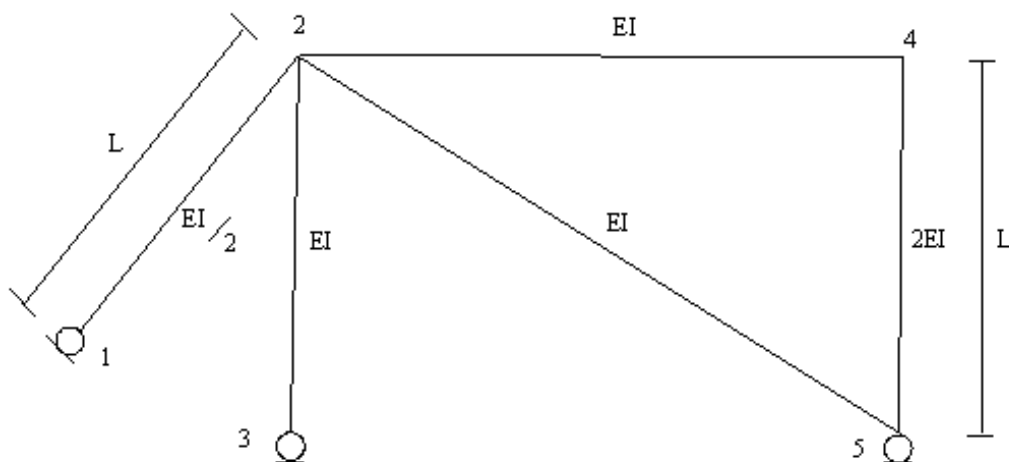

Figure 2
Figure 2 shows a plane beam structure consisting of four beam elements. Only bending stiffness shall be taken into account, i.e. axial and shear deformations should be neglected. It is given that the length of the beam 2-4 is equal to $2L$ and that the beams 2-3 and 4-5 are perpendicular to 2-4.
- a) Explain in detail what are the nodal degrees of freedoms $\mathbf{r}$ for the frame shown in Figure 2 when node 1, 3 and 5 are restrained against translations, but free to rotate. What is the difference between the nodes 1, 3, 5 and 2, 4 in your judgement?